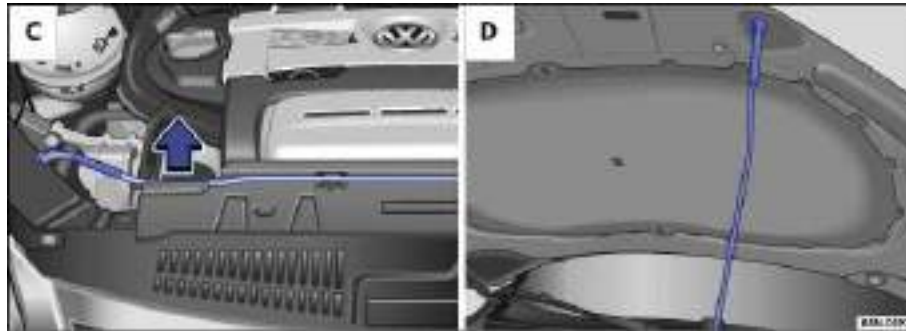

Fig. 163 A: Bracket for hood support in the engine compartment. B: Hood propped open.
- Pull the hood support out of its bracket in the direction of the arrow ⇒ fig. 163 C and insert it into the opening in the hood **D**.